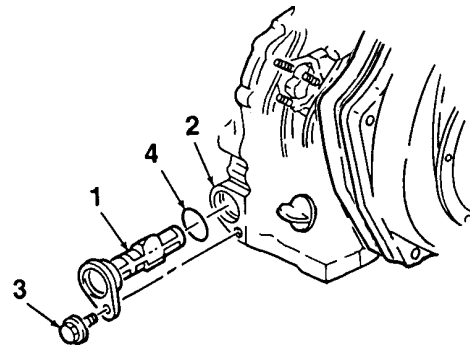

Figure 3-10. Oil Filter
Remove oil filter (1, Figure 3-10) from crankcase cover (2) by removing bolt (3). Remove and discard O-ring (4).
1. Inspect oil filter (1, Figure 3-10) for obvious damage. Check filter's mesh material for damage. Clean out clogging dirt and residue. Replace as required.
1. Apply a light coat of lubricating oil to new O-ring (4, Figure 3-10) and install O-ring onto oil filter (1).
2. Slide oil filter (1) into crankcase cover (2) and secure using bolt (3).